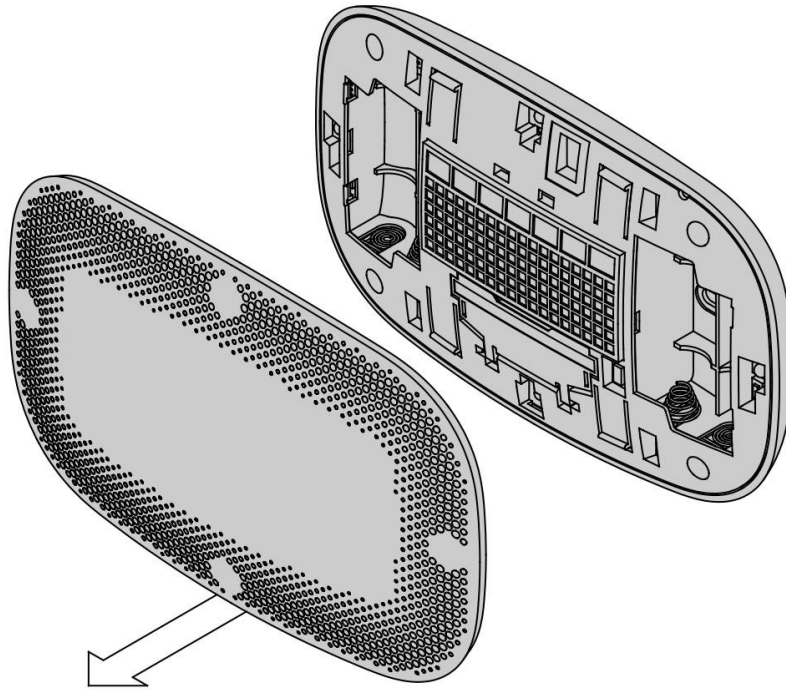

Figure 2. Open ZTS-500US front housing
1. Open the ZTS-500US by pulling the two sections apart (Figure 2). Use the fingertips of one hand to grip the tab on the front housing.